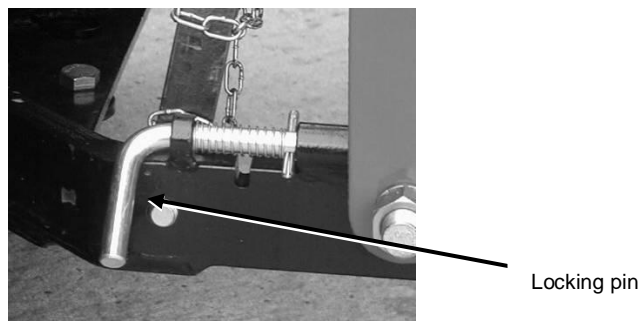

Fig. 51: Locking pin (locked)
8. Lock the locking pins (see Fig. 51).